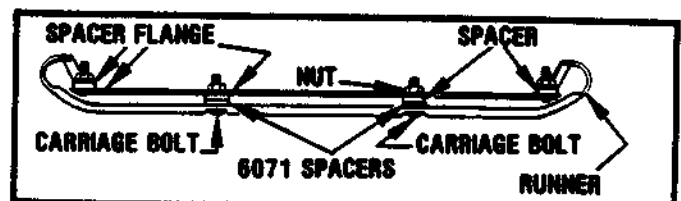

FIGURE 20
1. To pre-set the runners prior to a test cutting they may be adjusted as shown in Figure 20.